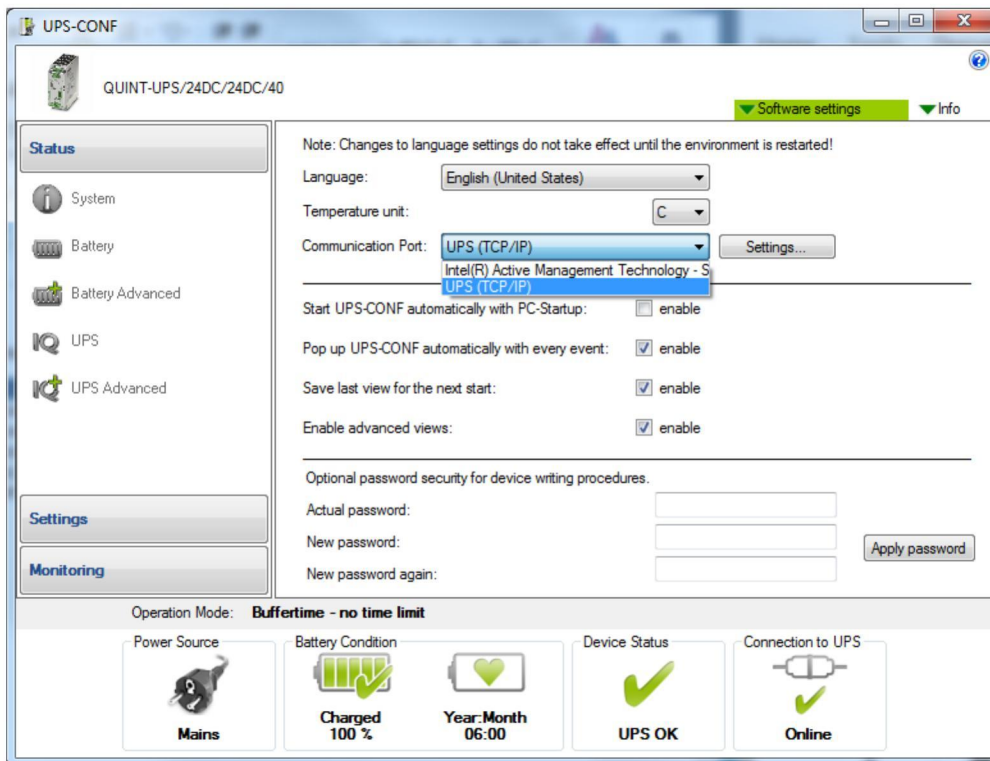

Figure 4 UPS-CONF “Communication Port” drop-down menu
- From the “Communication Port” drop-down menu (see Figure 4), click the newly created connection method (the custom port name).